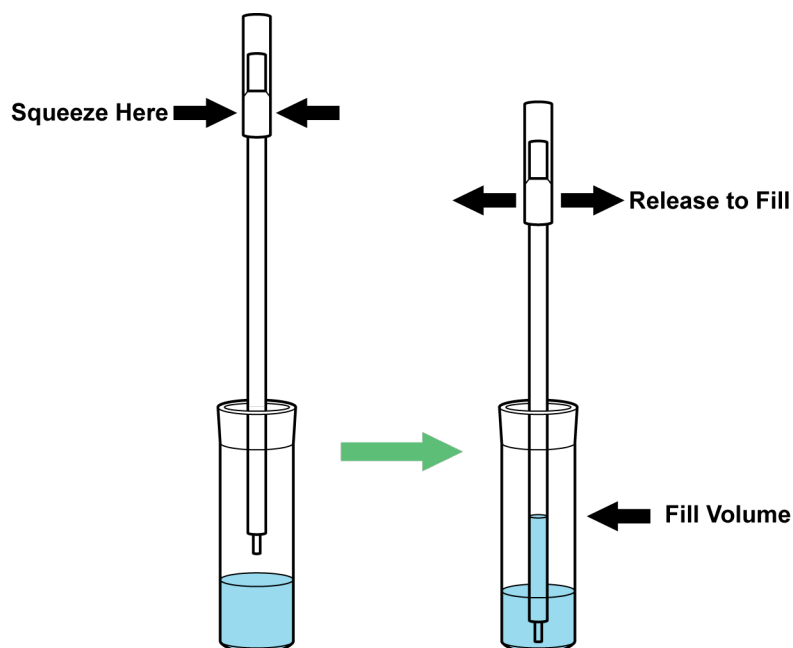

Figure 18. Transfer Pipette
1. Squeeze the bulb of the transfer pipette **completely** and place the pipette tip in the specimen transport tube containing the patient specimen (see Figure 18).